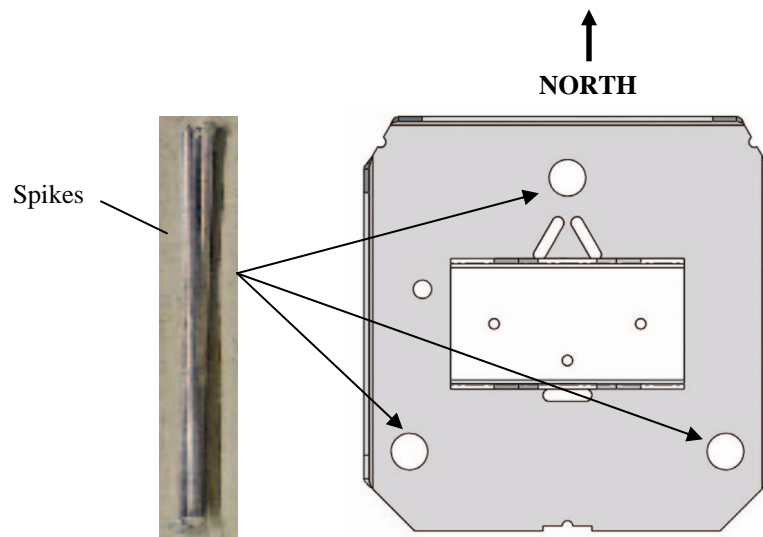

FIGURE 2.2-4. Spikes Installation
Step 3: Use spikes provided (3 each) to anchor base to site (see Figure 2.2-4).